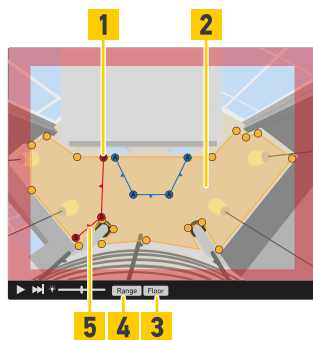

Fig. 99: Editing Counting Lines
- To see the floor area (Fig. 99 /2) in the live view click the Floor button (Fig. 99 /3).
- Define the counting line (Fig. 99 /5) by moving/adding/deleting points (Fig. 99 /1).